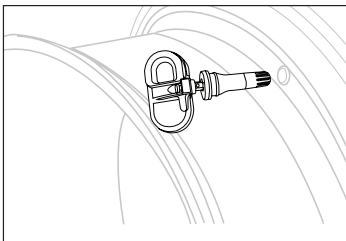

Figure 4
4. Install valve to the rim hole: guide the washer into the valve, and fix the nut by 4 Nm in torque, then tighten the cap (Figure 4).